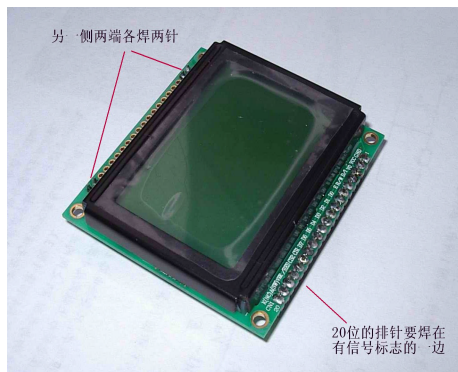

Fig. 2
7. At installing LCD panel connecting pins should be soldered to LCD module first (Fig. 2 & 3). The 20 position pins should be placed at the side with signal labels. Since there are same holds on both side of the module it is easy to misplace pins to the other side. **AVOID THIS!!!**